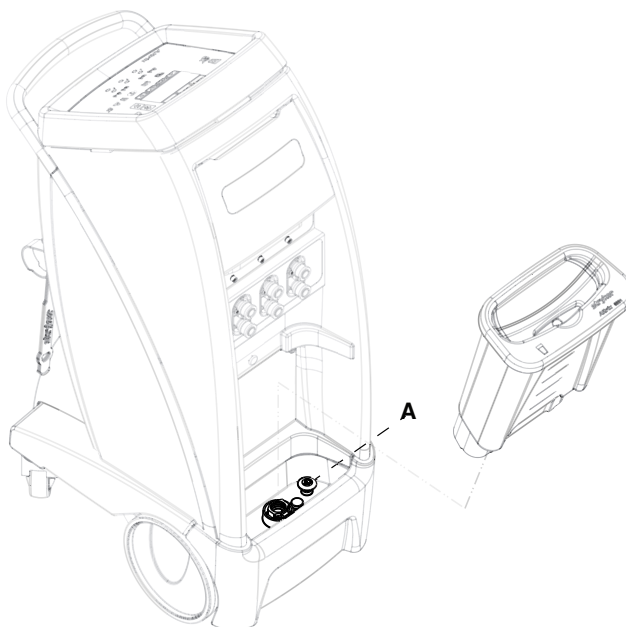

Figure 49: Drain plug
2. Remove the reservoir and pull up on the controller drain plug (A) to open the drain (Figure 49 on page 64).